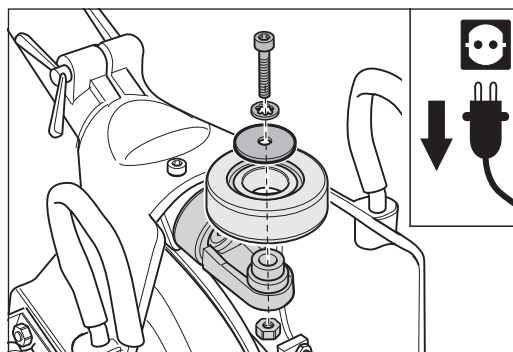

Fig. 97 Remove the screw with the washers and nut in the center of the wheel and take off the back wheel. Assemble in reverse sequence.
- 4 Release the screw in the center of the wheel and remove the screw, washers and nut (fig. 97). Ensure that you do not lose the nut.